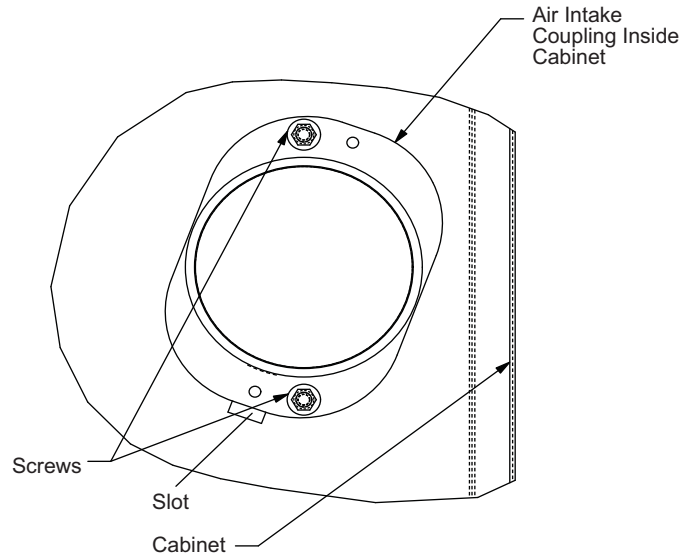

Figure 23. Type B - Removing Air Intake Adapter from the Outside of Cabinet
- Type B Units** - Air intake adapter can be removed from the outside of the cabinet by removing the two screws and rotating the pressure switch hose barb through the slot in the cabinet. See **Figure 23**.